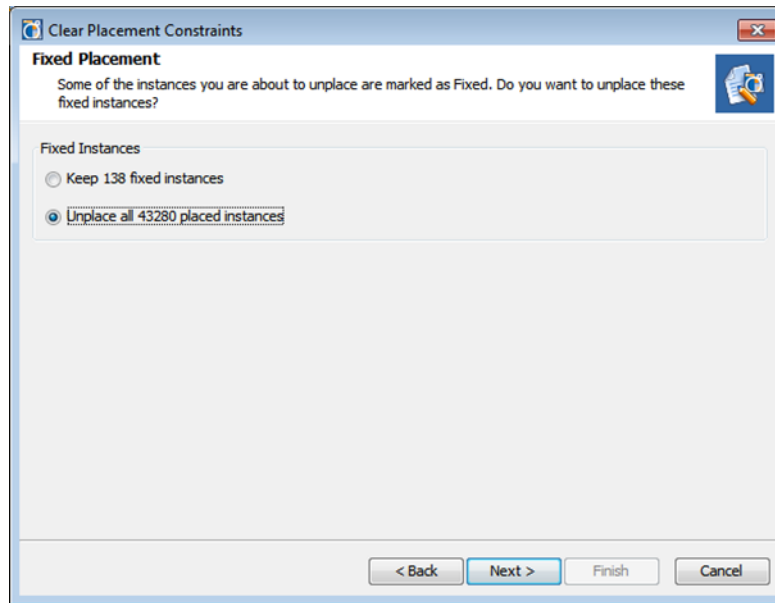

Figure 39: Unplace Fixed Cells
4. Click **Next**, as shown in FIGURE 39, to display the **Fixed Placement** dialog box.